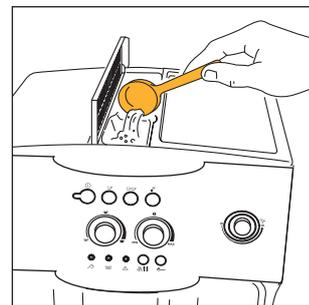

Fig.19
2. Lift the lid in the centre, insert the pre-ground coffee measure in the funnel (see fig. 19) and proceed as described in paragraph 5. NB: You can make just one coffee at a time by pressing the ☞ button.